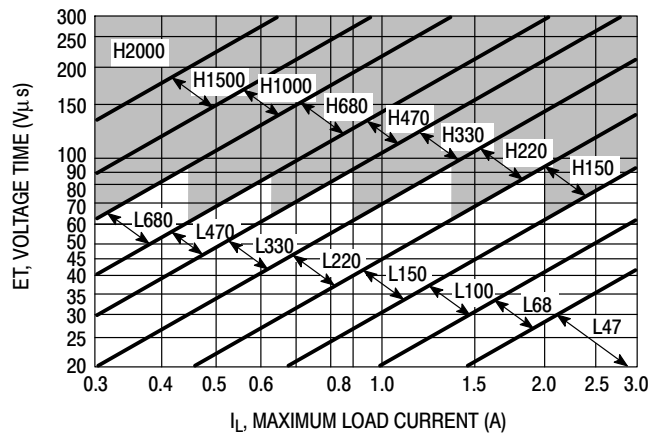

Figure 22. LM2576-ADJ
4. Inductor Selection (L1) A. Use the following formula to calculate the inductor Volt x microsecond [V x μs] constant: $E \times T = \left(V_{in} - V_{out} \right) \frac{V_{out}}{V_{in}} \times \frac{10^6}{F[\text{Hz}]} [\text{V} \times \mu\text{s}]$ B. Match the calculated E x T value with the corresponding number on the vertical axis of the Inductor Value Selection Guide shown in Figure 22. This E x T constant is a measure of the energy handling capability of an inductor and is dependent upon the type of core, the core area, the number of turns, and the duty cycle. C. Next step is to identify the inductance region intersected by the E x T value and the maximum load current value on the horizontal axis shown in Figure 25. D. From the inductor code, identify the inductor value. Then select an appropriate inductor from Table 2. The inductor chosen must be rated for a switching frequency of 52 kHz and for a current rating of $1.15 \times I_{Load}$. The inductor current rating can also be determined by calculating the inductor peak current: $I_{p(\text{max})} = I_{Load(\text{max})} + \frac{(V_{in} - V_{out}) t_{on}}{2L}$ where t_{on} is the "on" time of the power switch and $t_{on} = \frac{V_{out}}{V_{in}} \times \frac{1.0}{f_{osc}}$ For additional information about the inductor, see the inductor section in the "External Components" section of this data sheet.	4. Inductor Selection (L1) A. Calculate E x T [V x μs] constant: $E \times T = (25 - 8.0) \times \frac{8.0}{25} \times \frac{1000}{52} = 80 [\text{V} \times \mu\text{s}]$ B. E x T = 80 [V x μs] C. $I_{Load(\text{max})} = 2.5 \text{ A}$ Inductance Region = H150 D. Proper inductor value = 150 μH Choose the inductor from Table 2.